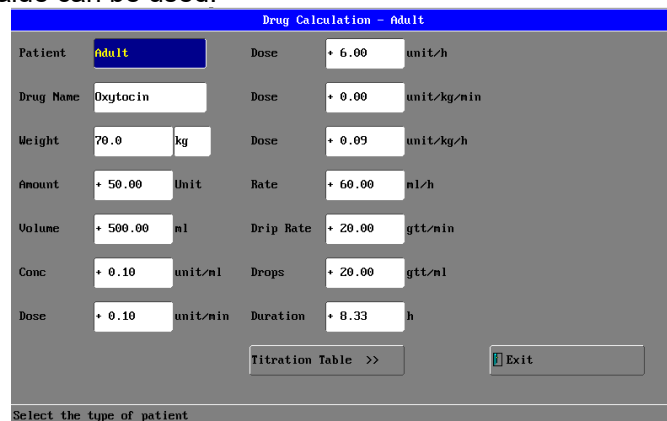

Figure 47: Window for Drug Calculation
1. Select "System Setup" --->"Drug Calculation" menu. The interface appears as shown in Figure 47.